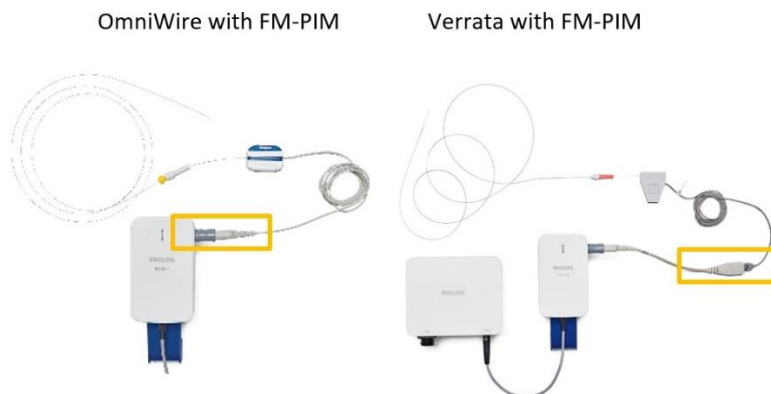

Figure 3 – Connection points of two types of cables (OmniWire and Verrata) to the FM-PIM to be used
- Step 3: Reconnect the cable again with the FM-PIM. Use the cable connector indicated with the yellow boxes in the Figure 3 below.